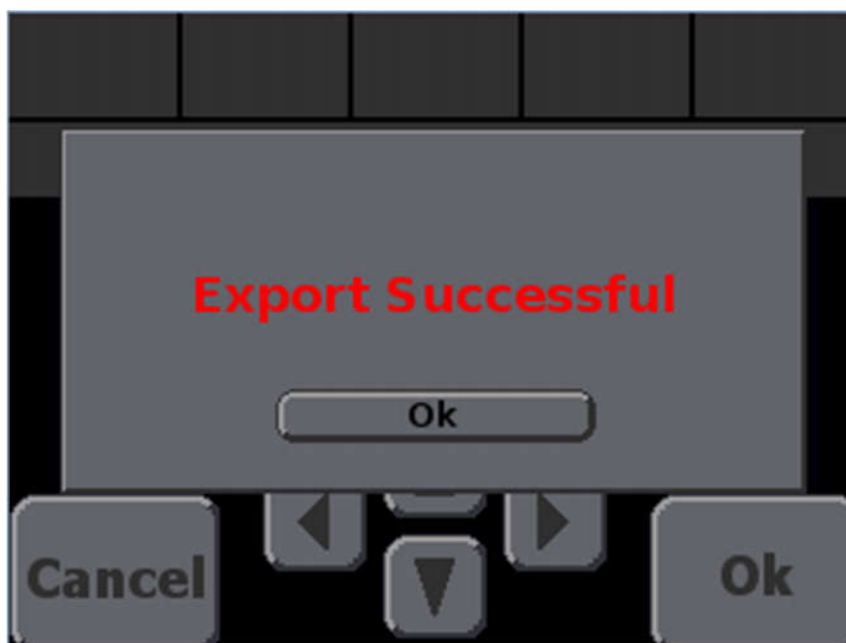

Figure 19: Export Successful Screen
STEP 6: Wait for the Export to complete. Figure 19 will appear.